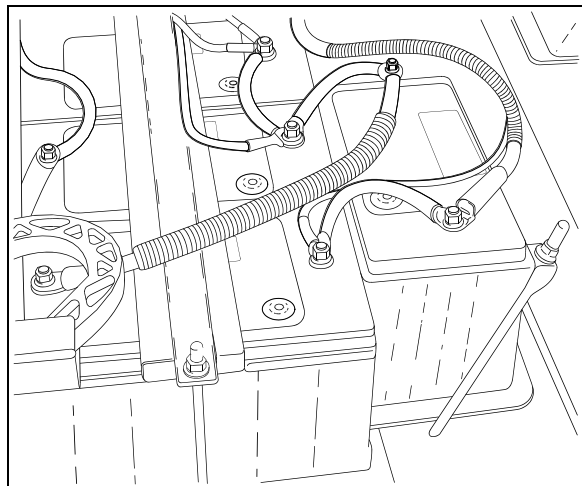

FIGURE 11: BATTERIES 06343
The vehicle is provided with four (4) maintenance-free 12-volt heavy-duty batteries connected in series-parallel (Figure 11 & Figure